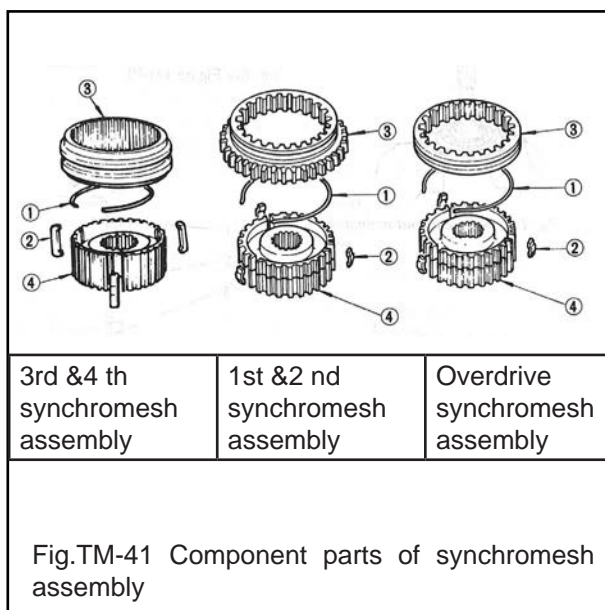

Fig.TM-41 Component parts of synchronesh assembly
1.Remove spread springs ① and take out shifting insert ②.
2.Separate coupling sleeve ③ from synchronizer hub ④ See Figure TM-41.